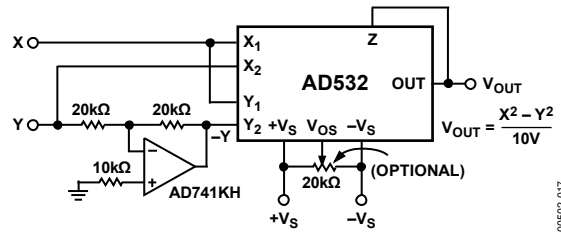

Figure 18. Differential of Squares Connection
The differential input capability of the AD532 allows for the algebraic solution of several interesting functions, such as the difference of squares,  $X_2 - Y_2/10$  V. As shown in Figure 18, the AD532 is configured in the square mode, with a simple unity gain inverter connected between one of the signal inputs (Y) and one of the inverting input terminals ( $-Y_{IN}$ ) of the multiplier. The inverter should use precision (0.1%) resistors or be otherwise trimmed for unity gain for best accuracy.